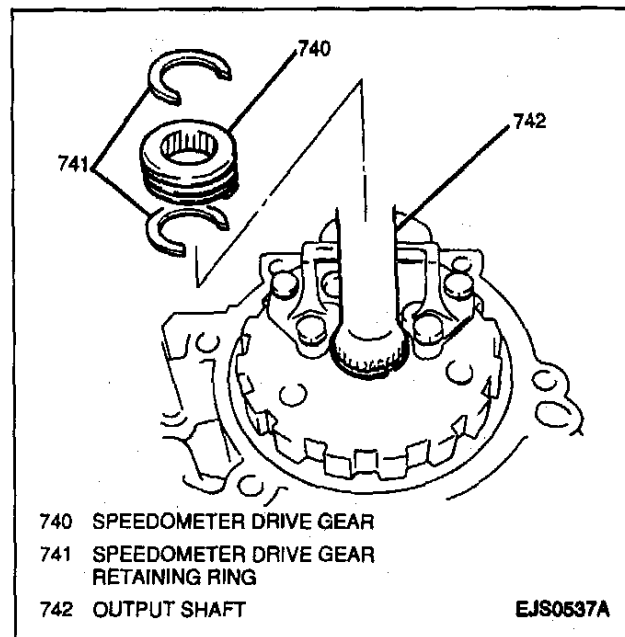

Figure 62—Speedometer Drive Gear Removal (3L30, 3-Speed)
Figures 62 through 65
4. Two speedometer drive gear retaining rings and speedometer drive gear from transmission output shaft (Figure 62).